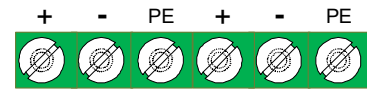

Figure 5-27: RS485 Data Cable Connector
Step 1. Extend the Data cable connected to Connection Box #1, out to the **Control Module** and connect it to the following terminals on the RS485 port of the Control Module (Figure 5-27).